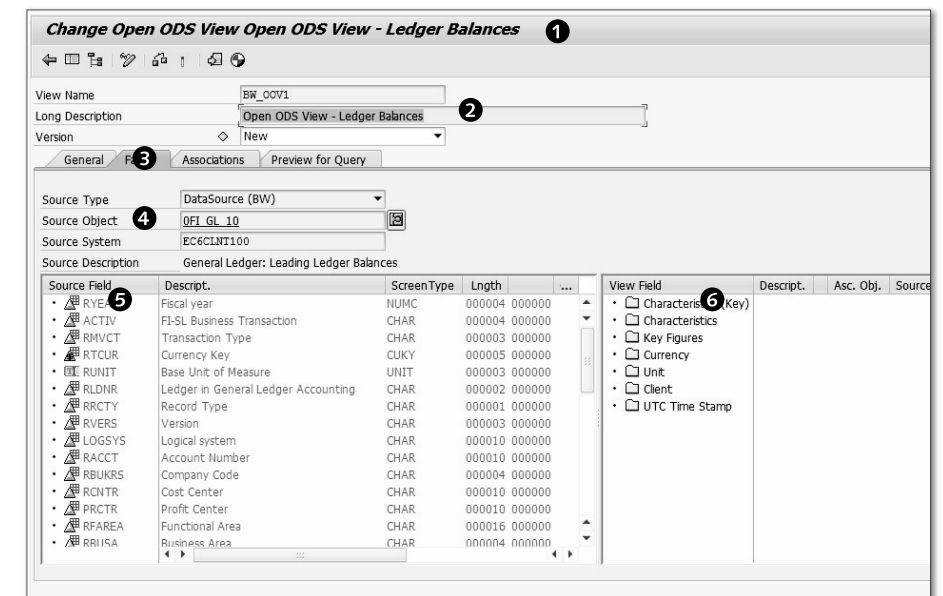

Figure 6.79 Changing the Open ODS View
You need to provide certain input while creating an OOV. Each OOV requires a unique name. Provide the name "BW_OOV1" and enter "Open ODS View - Ledger Balances" in the LONG DESCRIPTION field (❷ of Figure 6.79).